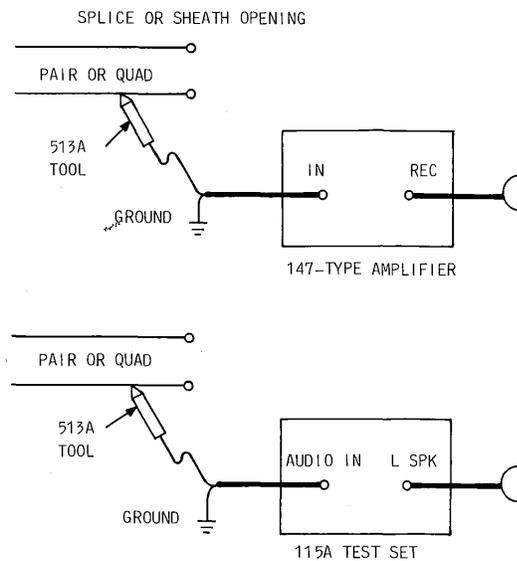

Fig. 24—Identifying Pair or Quad
- 3 At the splice or sheath opening, a 147-type amplifier or the audio-frequency circuit of the 115A test set, and a 513A probe must be used to identify the pair or quad to which tone is connected, as shown in Fig. 24.